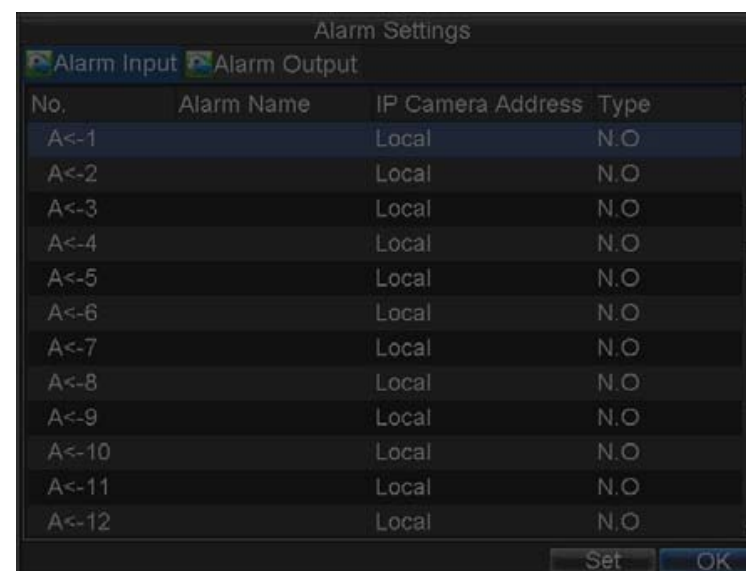

Figure 9.8. Alarm Management Menu
- 1) Click Menu > Settings > Alarm to enter the Alarm Settings menu, shown in Figure 9.8.